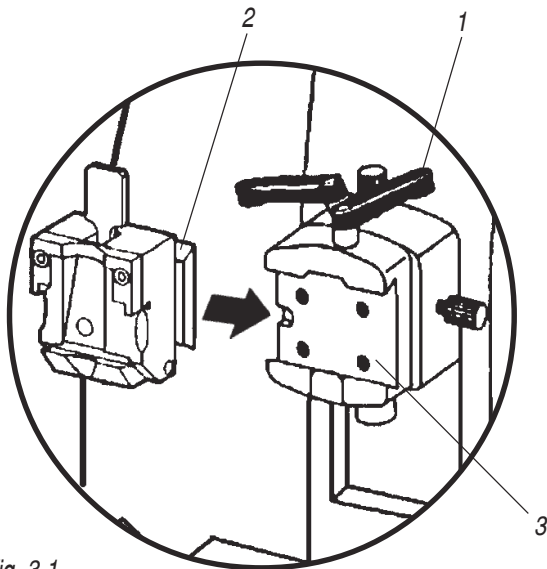

Fig. 3-1
Refer to Fig. 3-1 on inserting the specimen clamp.
- To release the clamp, rotate the clamping lever (1) counter-clockwise (Fig. 3-1).